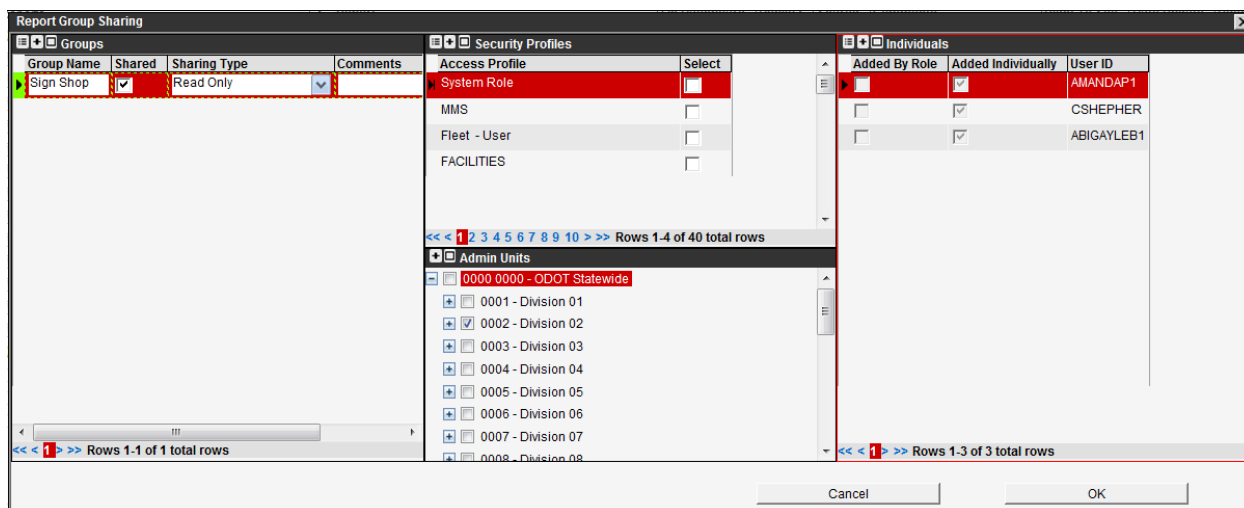

Figure 3-2. Report Sharing Dialog Box Example
2. When prompted to identify a Share Group, in the Report Group Sharing dialog box (Figure 3-2), identify the applicable Group name(s) at left or create a group.